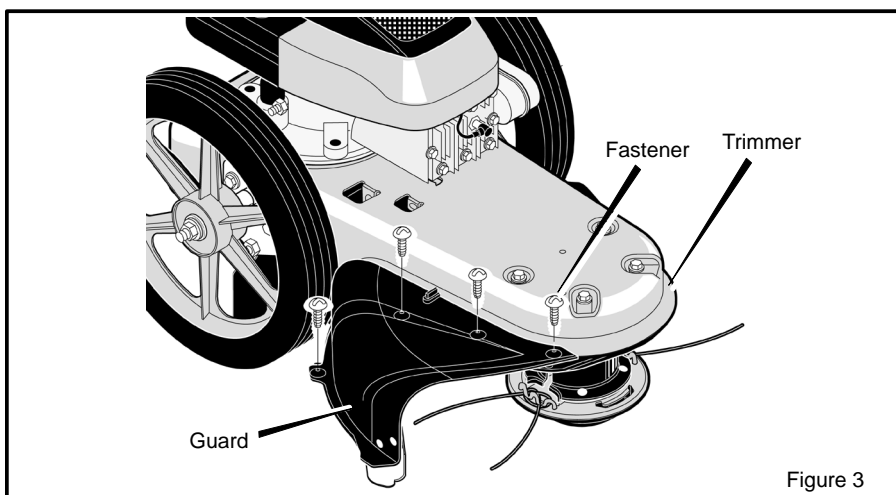

Figure 3
1. Attach the **guard** to the **machine** with the four **fasteners** as shown. See Figure 3.